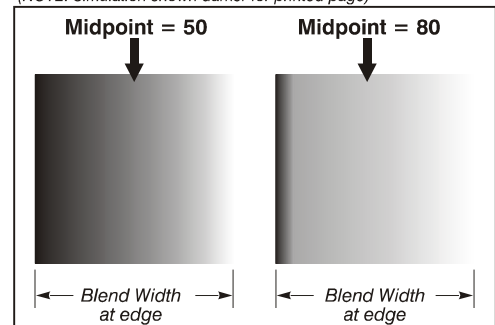

Figure 3-48 "Midpoint" Examples
- **Blend Midpoint** determines the white level at the blend midpoint (the point equidistant between the beginning and end of the blend). Increasing the **Blend Midpoint** setting creates a blend that appears brighter than the rest of the image. Decreasing the **Blend Midpoint** setting creates a blend that is darker than the rest of the image. A setting of 50 means the midpoint is approximately 50% black-for best results in most applications, keep fairly close to this default. See Figure 3-48.